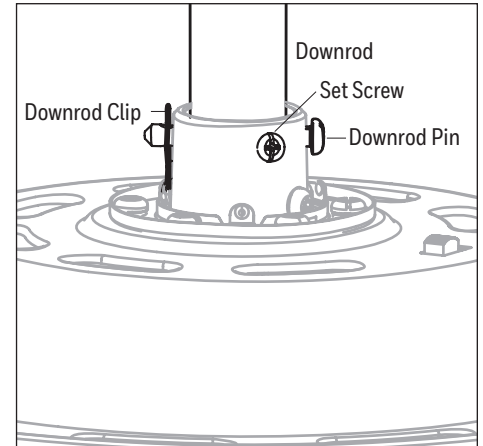

Figure 3.3
3. Slide the downrod into the yoke of the motor assembly. Align holes and reinstall the downrod pin and downrod clip and secure with the two set screws (Figure 3.3).